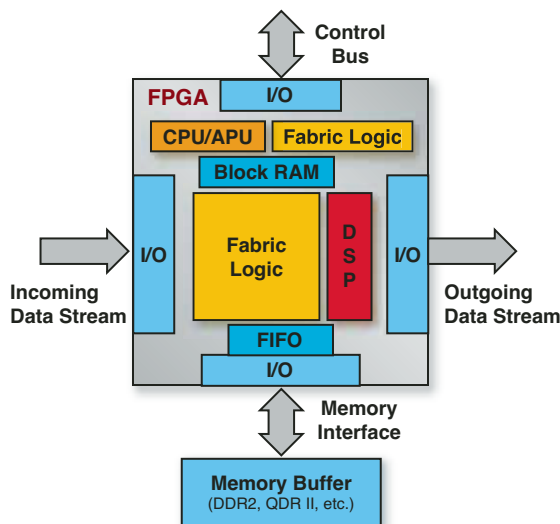

Figure 1 – FPGA-based system
- Embedded processing (Figure 1)